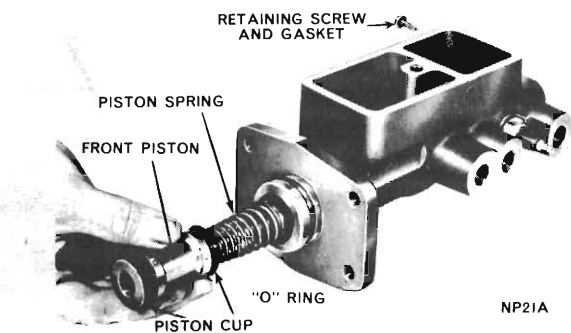

Fig. 4 - Installing front piston and spring
(5) Install piston spring, piston cup retainer, piston and cups into bore of master cylinder (Fig. 4). (Keep well lubricated with brake fluid, ensuring cup lips enter correctly).